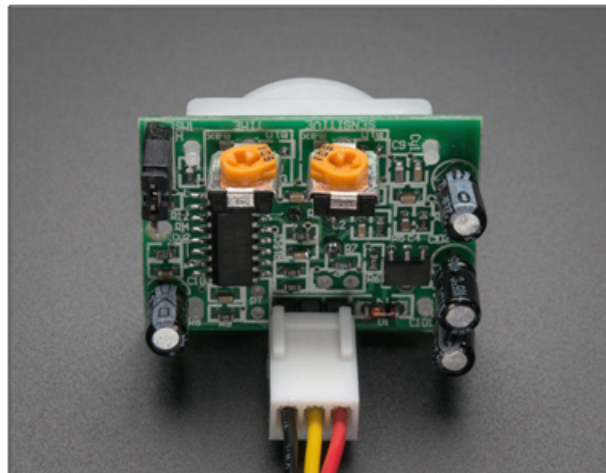

Figure 3: PIN Connections of a PIR Sensor
- **+V** : This pin of the PIR sensor should be connected to an external 5V supply. (The red wire as can be seen in figure 3)
- **GND** : This pin of the PIR sensor should be connected to an Ground.(The black wire as can be seen in figure 3)
decide the appropriate action that should be taken.(The yellow wire as can be seen in figure 3)